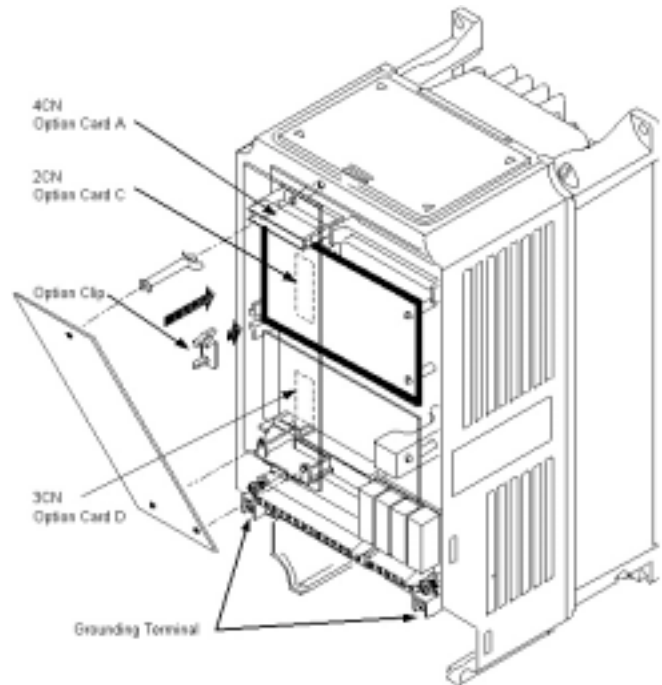

Figure 1. DI-08 Option Card Installation
5. **Option Card Installation:** See Figure 1. Position the option card above the control board's 2CN connector and gently press the card into place.